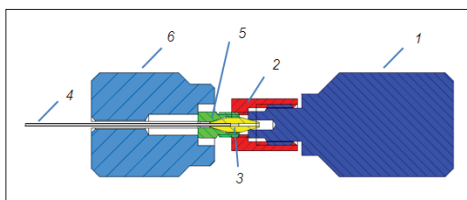

Figure 2. Section view of the first stage of swaging the male end fitting onto the double taper ferrule.
3. To swage the male μ -connector end fitting (5) onto the double taper ferrule first slide the male end fitting onto the capillary tubing (4) – the thread of the end fitting should be facing towards the cut end of the capillary tubing. Locate a double taper ferrule (3) and place it into the nut (2) – it simply sits in the nut.
4. Insert the capillary into the double taper ferrule and slide the male end fitting (5) into position making sure the capillary seats inside the ferrule – there is a stop designed within the ferrule. Gently tighten the male end fitting with your fingers until you feel resistance. Locate one of the FingerTite μ -connector male/female end fitting tools (6) and slide it over the capillary via the slot cut into the tool. Ensure the end fitting tool has the appropriate feature to seat the male end fitting. Tighten the fitting to swage the ferrule - do not over tighten, finger force is all that is necessary to swage the ferrule onto the capillary (see Fig. 2). You have completed the first step in installing the SilTite™ μ -Union.